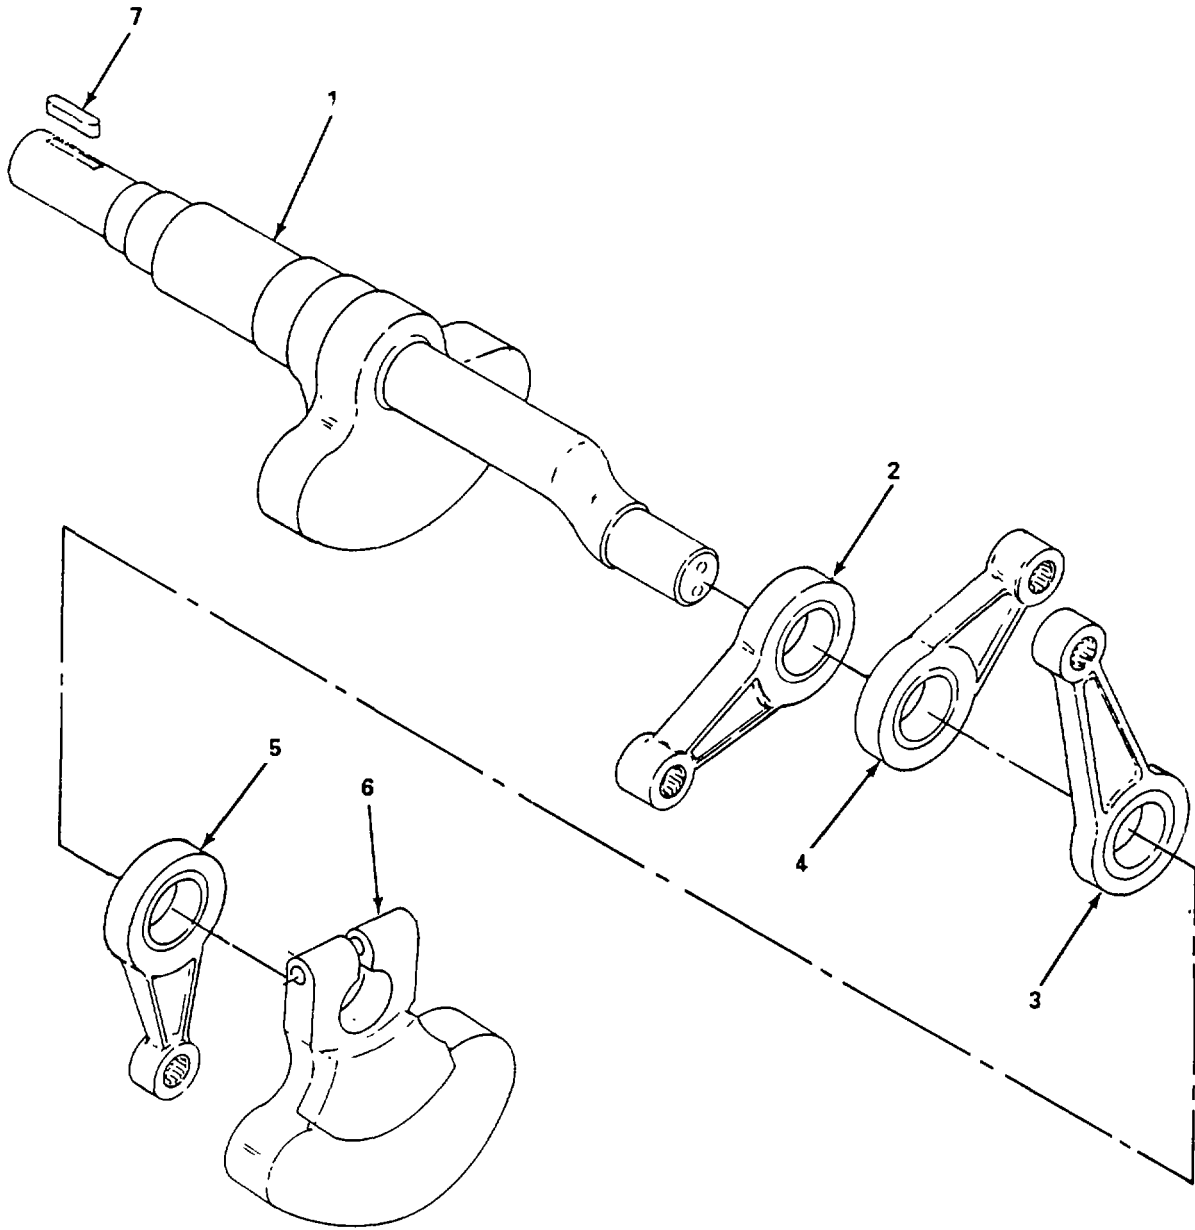

Figure 6-13. Compressor Crankshaft Assembly, Repair.
- (5) Install connecting rods (13), (14), (15), and (16) on crankshaft (12), while pushing crankshaft (12) into upper crankcase (17).
- (6) Install counterweight (11) and secure with bolt (10), lockwasher (9), and nut (8).
- (7) Install ball bearings (6) and (7) on crankshaft (12).
- (8) Install roller bearing (5), seal (4), gasket (3), cover (2) and secure with four bolts (1).
b. Repair. (figure 6-13)
- (1) Remove crankshaft assembly (para. a. above).